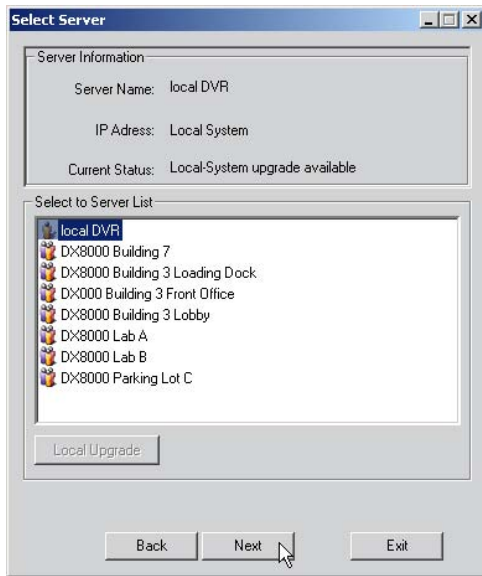
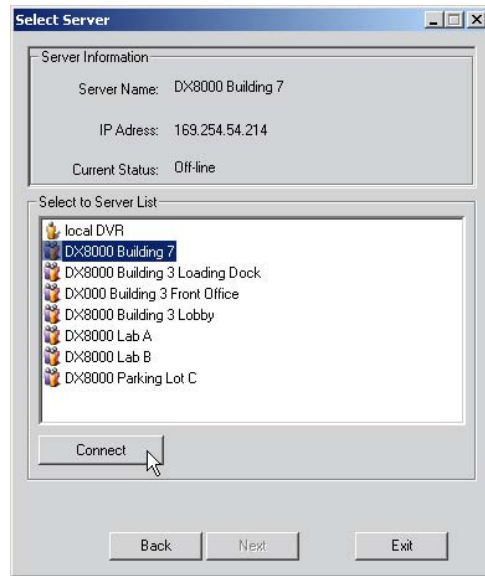

Figure 150. Selecting the Local DVR to Update
Figure 151. Selecting a Remote DVR to Update
- To update the local DVR, select site name of your system from the Select Server list. Refer to Figure 150 and Figure 151.